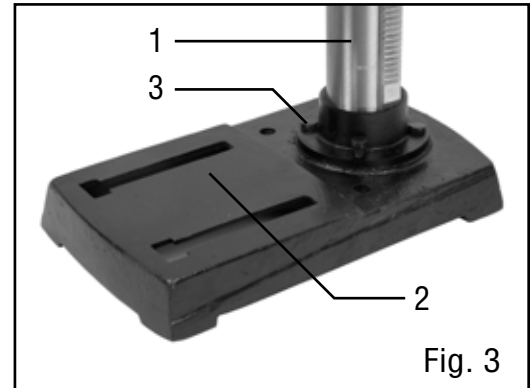

Fig. 3
ATTACHING COLUMN TO BASE (FIG. 3)
1. Place the column tube (Fig. 3 - 1) on the base (Fig. 3 - 2), aligning the column support holes to the base holes.
2. Install a socket head cap screw (Fig. 3 - 3) in each column support hole and tighten screws using the included 5mm hex wrench.